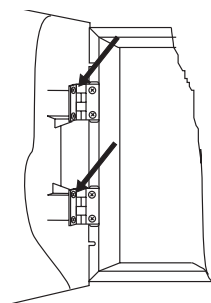

Figure 3.
- Remove the front panel by undoing the screws of the hinges - Figure 3. (**NB.** *The screws at the metal bottom can also be undone. What is special here is that there are two plastic pads under the every hinge. These pads need to be placed back again under the hinges when mounting the front panel.*)
- Perform an exposed or flush mounting - see items 3.1 and 3.2.